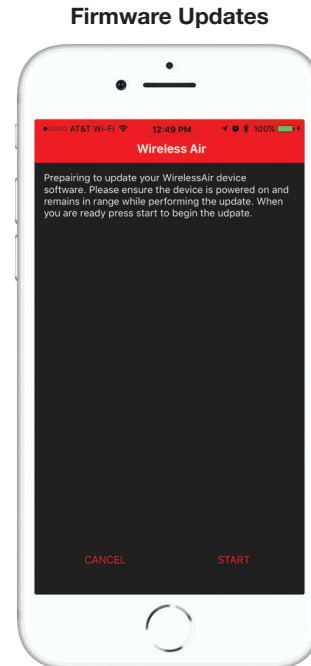

fig. E.5
2. The app must be connected to the manifold to change firmware on the manifold (Fig. E.5). The app must be connected to the wireless controller to change firmware on the wireless controller.